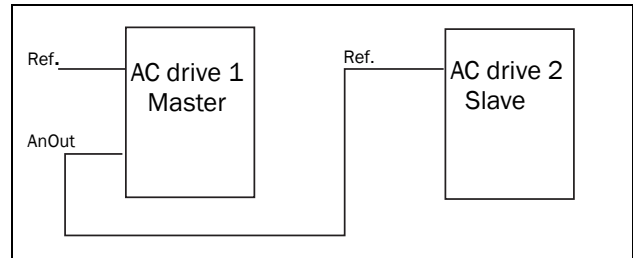

Fig. 107
- a reference signal for the next AC drive in a Master/Slave configuration (see Fig. 107).